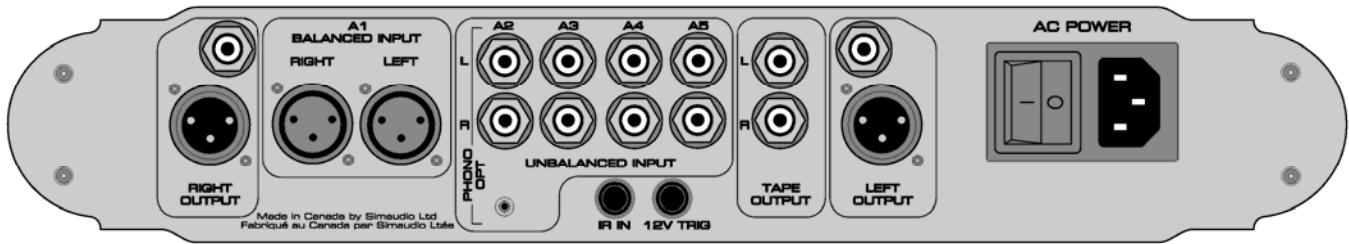

Figure 3: MOON P5.3 SE Rear panel
The rear panel will look similar to Figure 3 (above). There are four (4) pairs of single-ended inputs on RCA connectors labeled A2, A3, A4 and A5. The left channel inputs are located on top and the corresponding right channel inputs are located directly below. To the left of these single-ended inputs is one (1) pair of balanced inputs labeled A1.